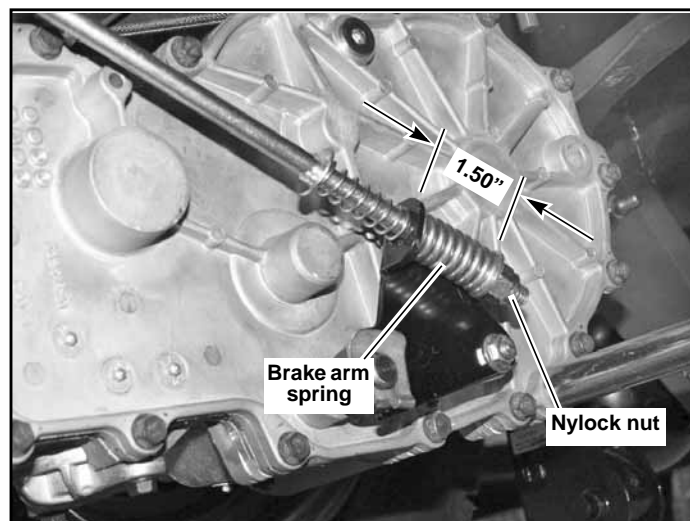

Figure 4-6
2. On one side measure the park brake spring. It should be compressed to 1.50". If it is not, adjust the nylock nut until the proper spring compression is achieved. Figure 4-6